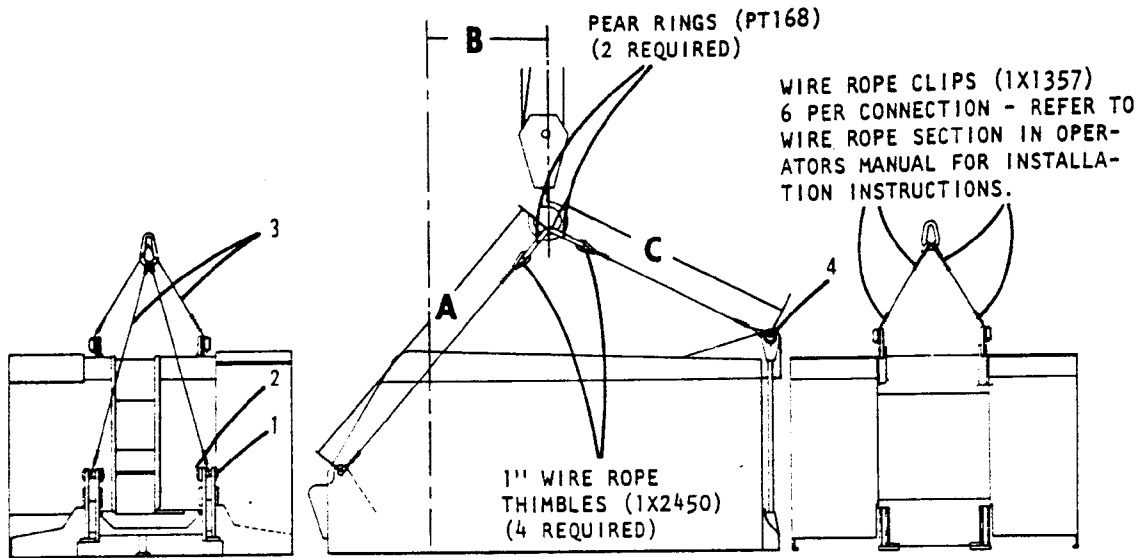

Fig. 2
- Make up a sling, with four legs, sufficient to lift the upper. (Approximately 63,000 lbs.) (28577 Kg). (See Fig. 2). If using wire rope, use a minimum of 1" diameter rope with a breaking strength of at least 59 tons. (46,257 Kg). LBS type N rope is recommended. Use new rope straight off the reel for making up the sling. Connect one leg to each live mast foot leg, and one leg to each end of gantry headshaft. Make sure keeper pins or cotter pins are installed in mast foot pins to prevent their working out. Connect to sling with hook block from helper crane. Check rigging and capacity plate on helper crane to make sure it is able to lift the upper. Take a strain against sling to support upper weight while turntable bearing bolts are removed.